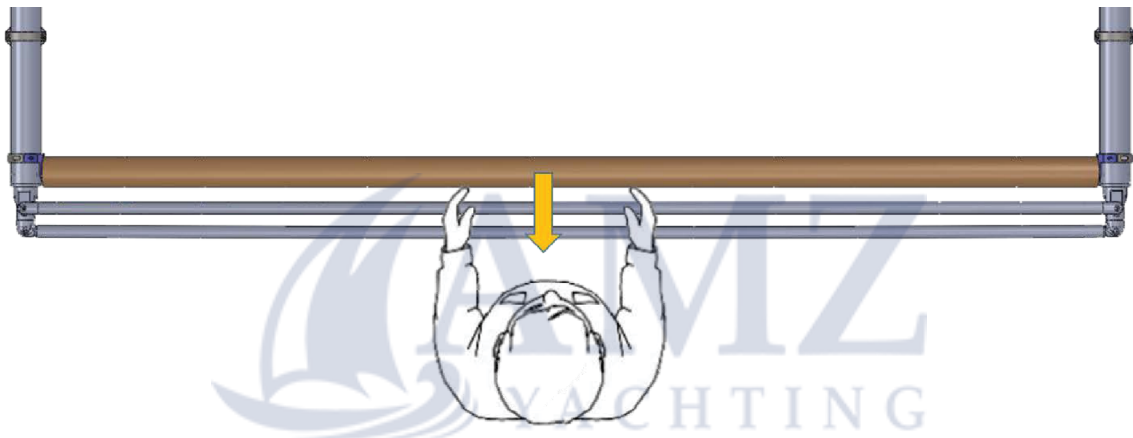

Fig.22
- A. Stand behind the roller facing the front of the boat and grab the canvas and roller with both hands (Fig.22).